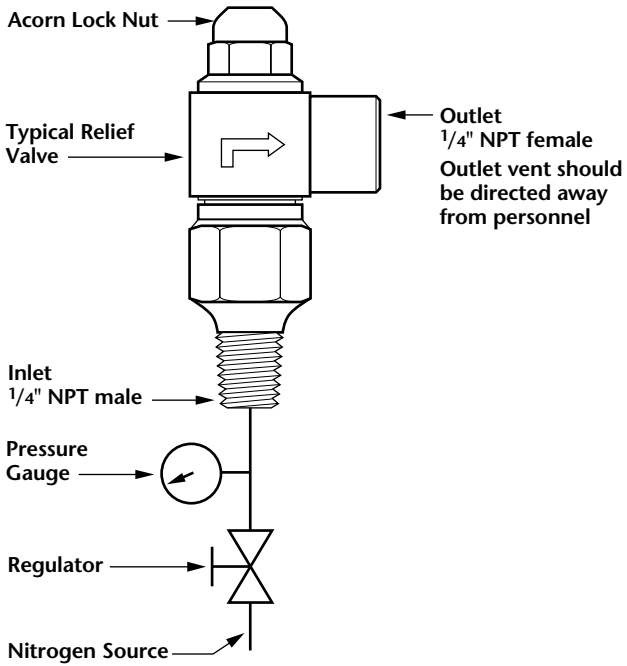

Figure 1 – Typical Configuration for Adjusting Cracking Pressure
1. Connect a regulated clean, dry inert gas (e.g. Nitrogen) to the inlet of the relief valve. Tee a pressure gauge into the line immediately upstream of the relief valve (Fig. 1, pg. 9).